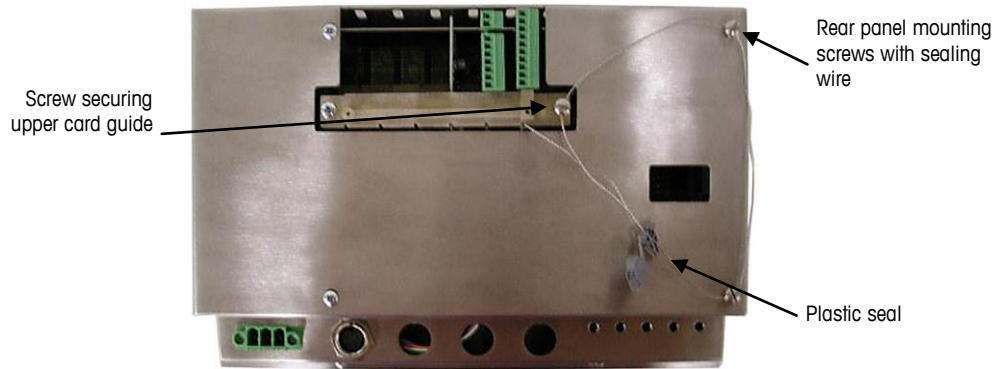

Figure A-76: 3-Point Sealing, Panel Enclosure Rear Cover
4. Finally, the back panel of the enclosure is sealed. Three sealing screws are indicated in Figure A-76 – two secure the panel in place on its stand-offs and one secures one end of the upper card guide.